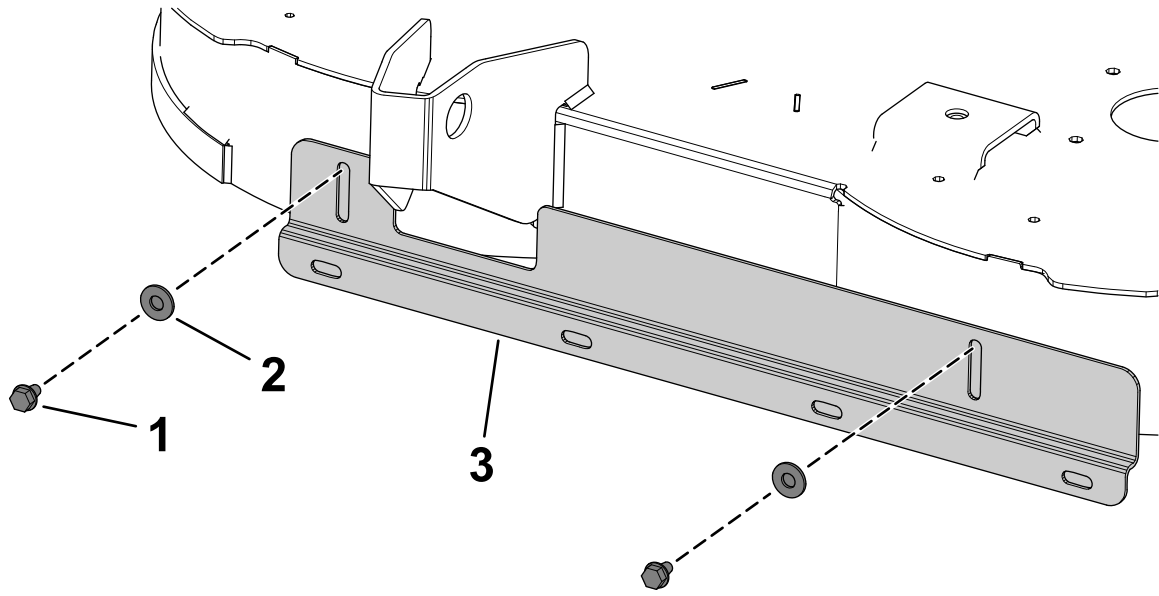

Figure 2
- Secure the striping bracket to the mower deck using 2 washer-head screws (5/16 x 1/2 inch, self-threading) and 2 flat washer (5/16 inch) as shown in Figure 2.